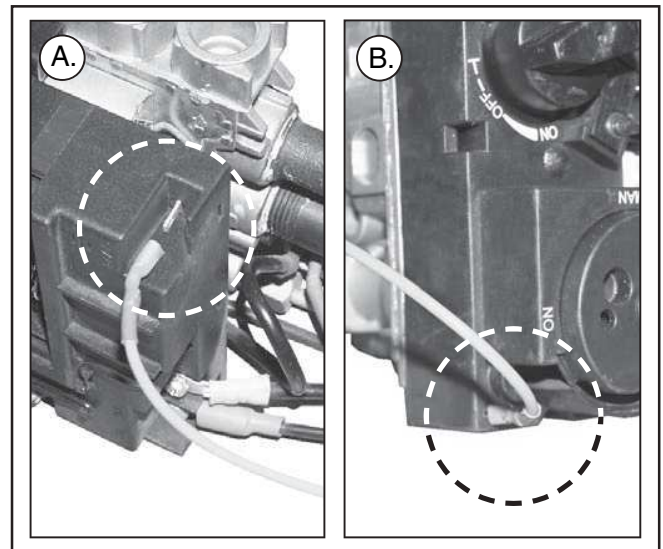

Fig. 5-2a/b Piezo igniter wiring
5. Wait five (5) minutes to clear out any gas. Verify that no gas is in the area around the appliance, including near the floor. **If you detect gas STOP!** Follow "A" in the safety information on page 1. If no gas is present, proceed to step 6.
8. Change the ignition cable from the receiver (see Fig.5-2a) to the valve (see Fig. 5-2b).